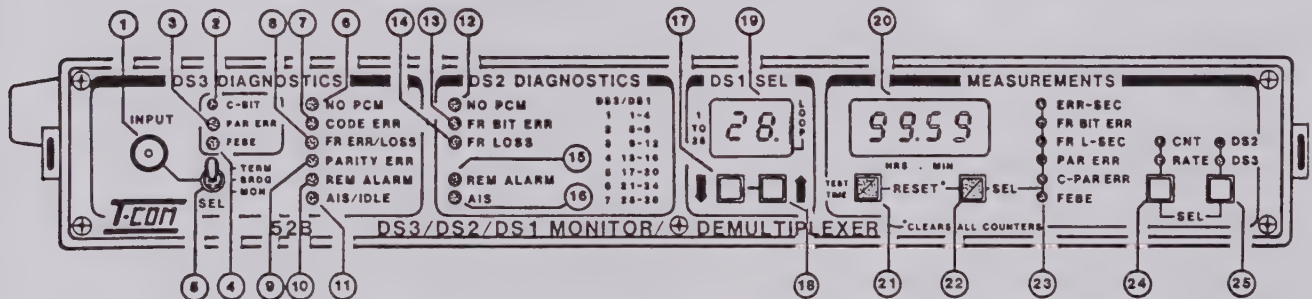

Figure 3.1 Front Panel Features
3.2 The 52B front panel features are described below. The description numbers match the numbers in figure 3.1.
TEST TIME -- The test time in hours and minutes can be displayed at any time by simply depressing key 21 in figure 3.1. This timer is initialized to __. __0 upon reset.